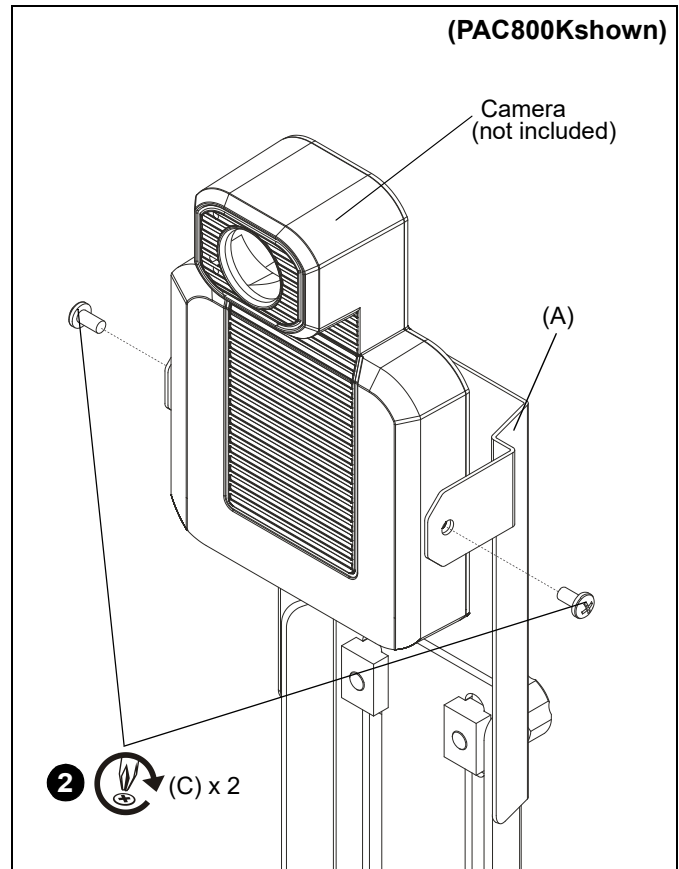

Figure 3
1. Use two #10-32 x 3/8" Phillips pan machine screws (C) to secure camera to main bracket (A). (See Figure 3)